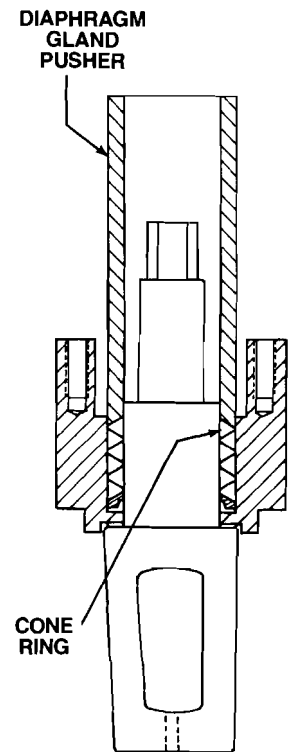

FIGURE VA-6
- The packing is then placed into the stuffing box as shown in Figure VA-6. Several packing orientations are shown in an earlier section. Under no circumstances shall sharp objects such as screw drivers, cold chisels or knives be used to force the packing into the stuffing box. The packing gland may be used to start the packing into the stuffing box.
- Following insertion of the packing set, the diaphragm gland pusher is placed over the plug stem. Seat the packing by loading the gland pusher with an arbor press. The packing may be seated in sections but the gland pusher will only fit a cone ring. It must not be used to seat against a cup. See Figure VA-6. The packing gland is now placed over the plug stem and seated with the arbor press.